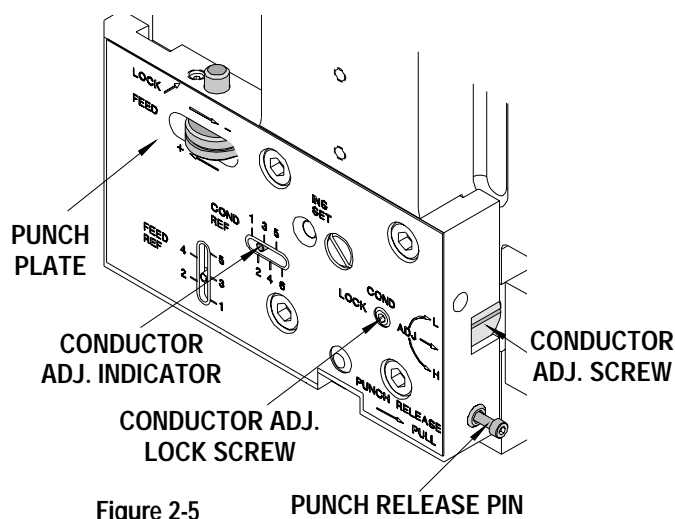

Figure 2-5 PUNCH RELEASE PIN
6. Loosen the M6 conductor adjustment lock screw located on the front of the punch plate. See Figure 2-5.